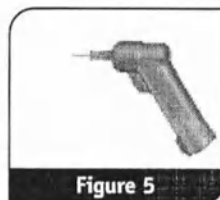

Figure 5
7. Remove and discard the needle set safety cap from the IO needle set installed on the EZ-IO power driver. (See Figure 5)